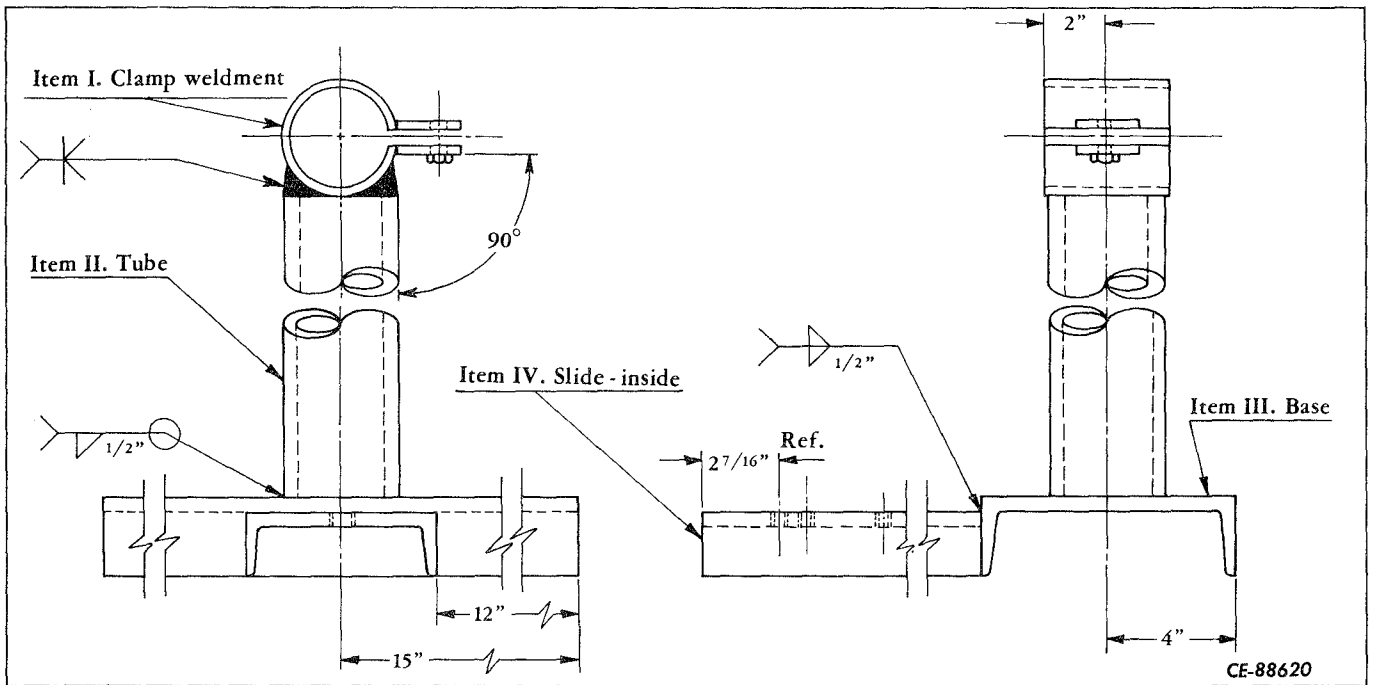

Figure 6-15
- B. Stand weldment - left hand (Fig. 6-15).